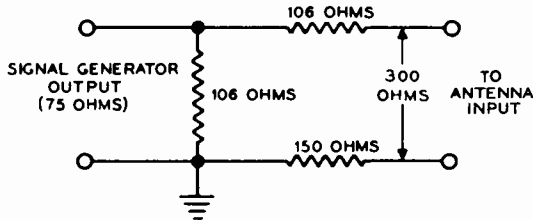

Fig. 1. Antenna-Input matching network.
SWEEP (FM) GENERATOR: Connect to antenna-input circuit through antenna-input matching network (See figure 1).
SWEEP (FM) GENERATOR: After step 7, connect to antenna-input circuit through antenna input matching network. (See figure 1.)